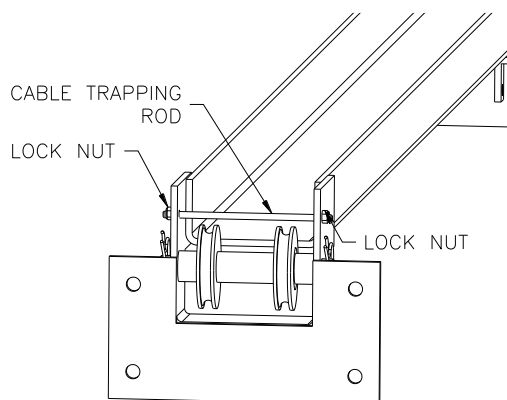

Fig. 5-Cable Trapping
- 17) At the upper beam sheave locations disassemble and reassemble the cable trapping rod to install the cable onto the sheave, See **Fig. 5**. To install the cable bottom sheave will need to be removed then reassembled.
- 18) Attach one end of synchronizing cable to carriage. See **Fig. 5** for proper attachment.